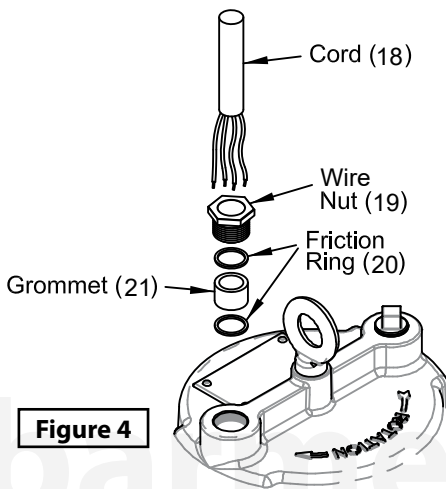

Figure 4
14. Check power cord (18) for cracks or damage and replace if required. Insert one washer (20), grommet (21), washer (20) into motor housing (4). Apply pipe sealant to gland nut (19) and screw into motor housing (4). Torque gland nut to (19) to 15 ft. lbs. to prevent water leakage (See Figure 4). Refill the cooling oil and replace pipe plug (16).